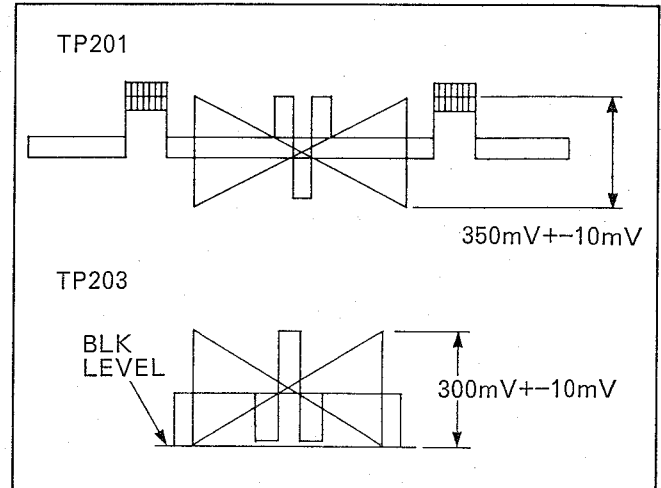

Fig. C24
4. Push "SHIFT1" and "2" or "3" together so that signal level at TP201 becomes 350mV±10mV as shown in Fig.C24.
8. Push "INC" or "DEC" so that signal level at TP203 becomes 300mV±10mV as shown in Fig.C24.